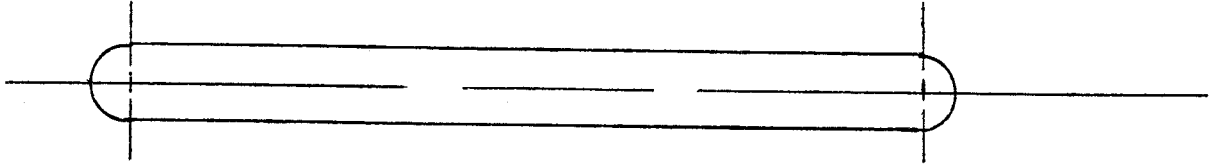

Figure 6, Mounting Hole Template
**Step 3. Prepare the case for the cables.** With the Motherboard loosely mounted in the case, mark the side of the case bottom to indicate the location of the extreme ends of connectors J11 and J12. Remove the Motherboard and, mark the location of the hole to be cut in the bottom of the case one inch in from the left side using a copy of the template in Figure 6, Mounting Hole Template. Drill a 3/8" hole at one end of the marking. Using a nibbler (Radio Shack part no. RS64-823) extend the hole to the opposite end of the mark. File the edges of the hole smooth, removing any burrs, and install grommet in the hole or pad the hole with electrical tape to prevent damage to the cables. Note the location of pin 1 before routing the cables through hole without twisting them.